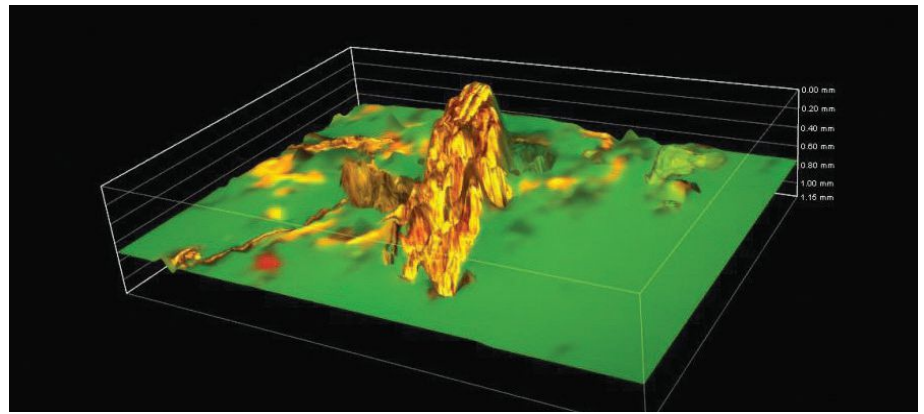

Figure 2 | Copper alloy particle in 3D.
- Wear metals: iron, copper (see Figure 2), lead, tin, chromium, titanium, nickel, aluminum, silver, cadmium.